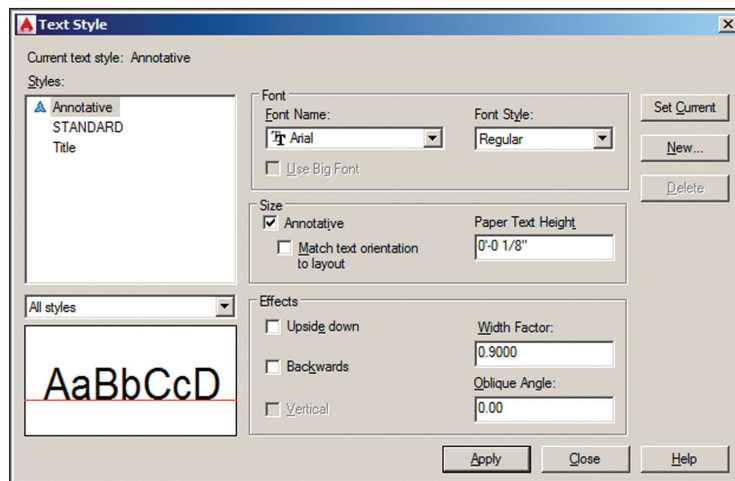

FIGURE 13.1 Creating an annotative text style
2. Select `Arial` as the font name, select `Annotative` in the Size area, type `1/8"` (or `0.4 cm`) for Paper Text Height, and type `0.9` for Width Factor (see Figure 13.1). Click `Apply` and then click `Close`.